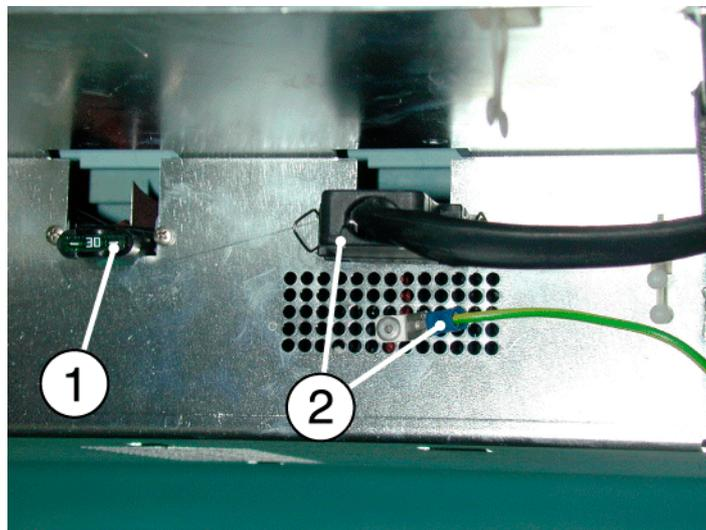

Figure 24 Fuse (1) and connector (2) on drawer unit
The rechargeable batteries for the uninterruptible power supply are located underneath the trolley in a drawer. Before replacing the rechargeable batteries, check if the fuse (Figure 24/1) is OK.
1. On the rear of the Zeus underneath the trolley, detach the PE conductor and the connector (Figure 24/2) from the rechargeable batteries' drawer.